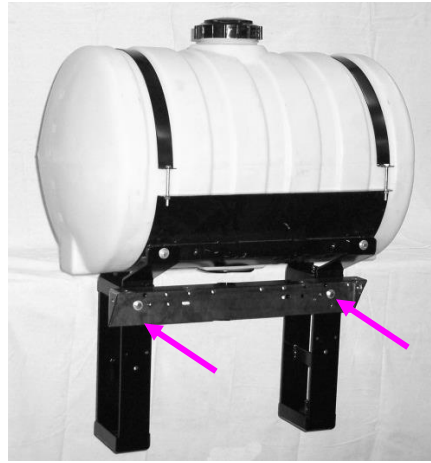

Figure 2
3. Connect the pump plate mounting bracket (001-4646C), shown in Figure 2, using two 3/8 x 1 1/4 bolts, nuts, locks, and flat washers to the saddle.